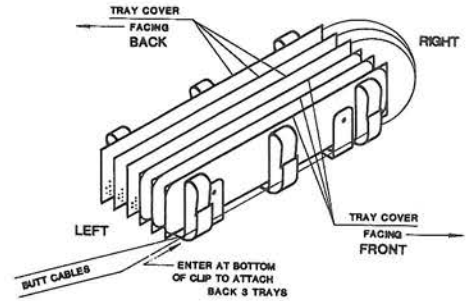

FIGURE 7
7.03 Route the buffer tubes for the right three positions (if required) through the bottom set of buffertube retainer clips. These buffertubes will enter the top right of the back three splice trays. (Figure 7). Mark the buffer tubes 1" beyond the point where they enter the tray.